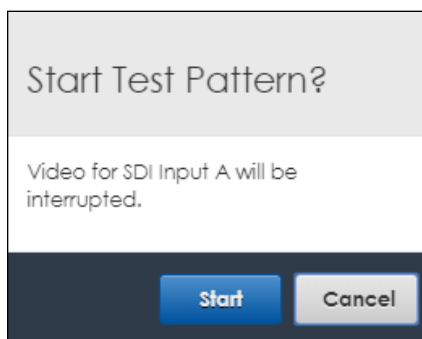
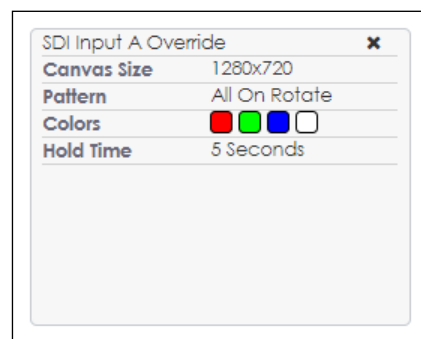
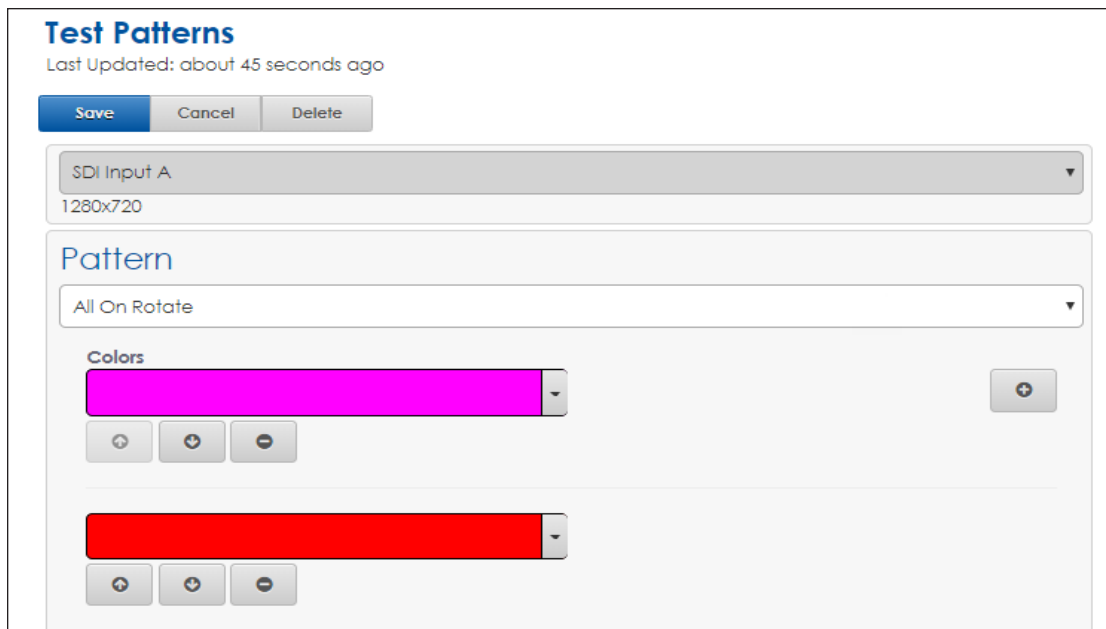

Figure 78: Test Pattern Warning
Figure 79: Test Pattern Tile
Figure 80: Changed Test Pattern Parameters
5. Click **Create** to run the test pattern. A message warns that this action interrupts active display content. Refer to **Figure 78**. While the test pattern is running, a tile appears with the pattern's details. To stop the test pattern, click the **x** in the upper-right corner of the tile. Refer to **Figure 79**.
6. Click the test pattern tile while the test pattern is running to open the test pattern details and make any changes to the configuration. Refer to **Figure 79**, **Figure 80**, and **Test Pattern Details (p.46)**.